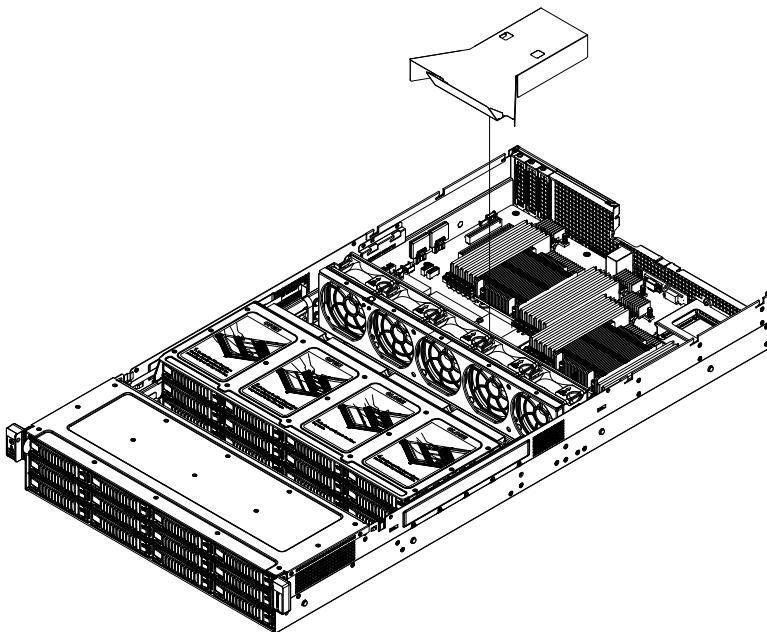

Figure 6-15. Mylar Air Shroud Installation
2. Place the large mylar air shroud in the chassis. It fits just behind the fans and under the power supply housing. (Figure 6-15)